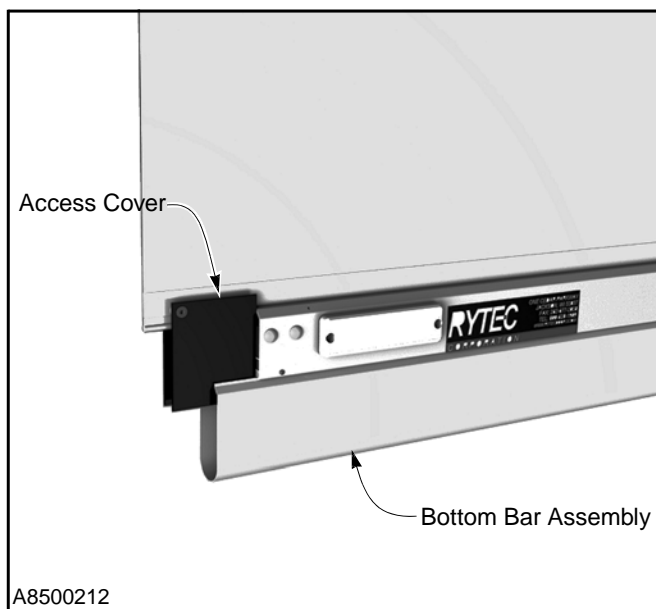

Figure 28
1. The reversing edge switch is located inside the bottom bar assembly. To inspect and/or adjust the switch, remove the access cover from the face of the bottom bar assembly. (See Figure 28)